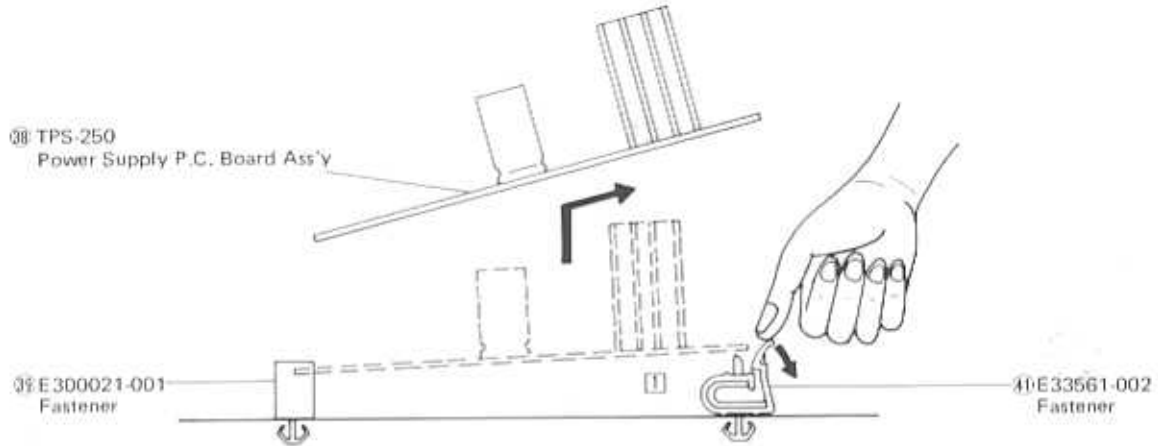

Fig. 5
- Press the Fastener 1 of Fig. 5.
- Pull the C.B. as shown Fig. 5 out.